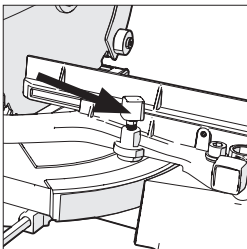

Fig. 20
- Loosen the mitre locking screw (**Fig. 20**) by turning it anti-clockwise.